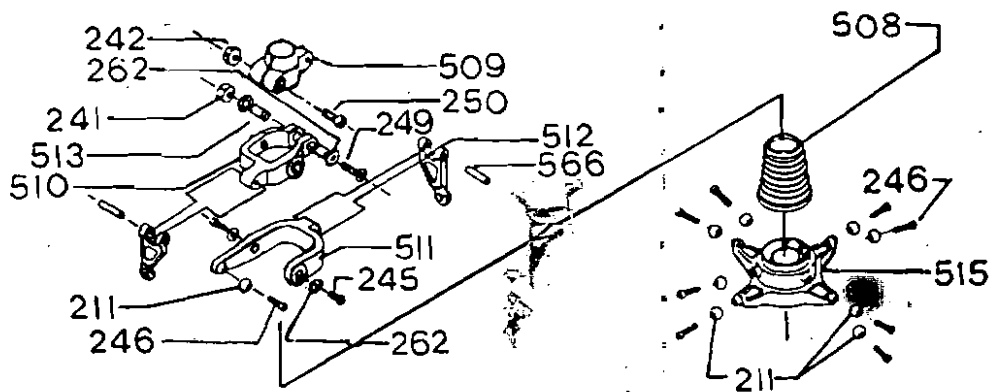

Figure 9
STEP 9 SWASHPLATE ASSEMBLY - see Figure 9